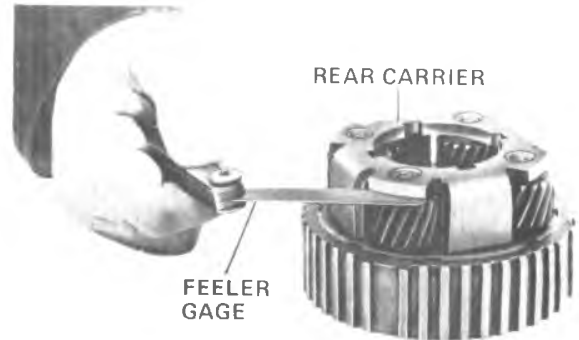

Figure 7A1-78 Checking Rear Carrier Pinion End Play
2. Install rollers that may have come out of roller clutch cage, by compressing the energizing spring with forefinger and inserting roller from outer edge. (Figure 7A1-80).